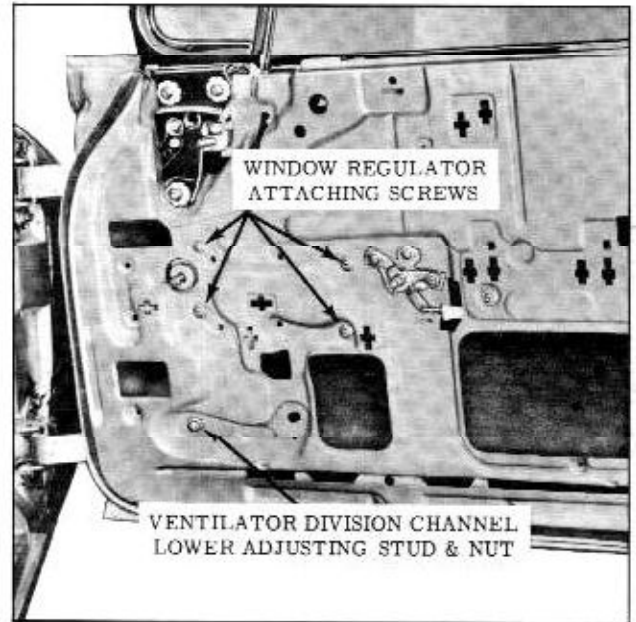

Fig. 17-36 Window Regulator Attachment
2. Remove ventilator division channel lower adjusting stud and nut. (Fig. 17-36)